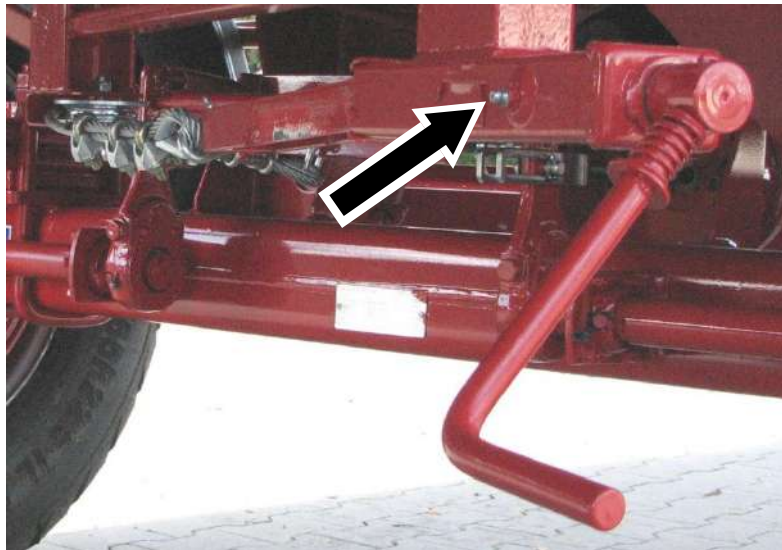

Figure 42: Spindle lubricating nipple
- ⇒ Lubricate the spindle with grease via the lubricating nipple (see Figure 42).